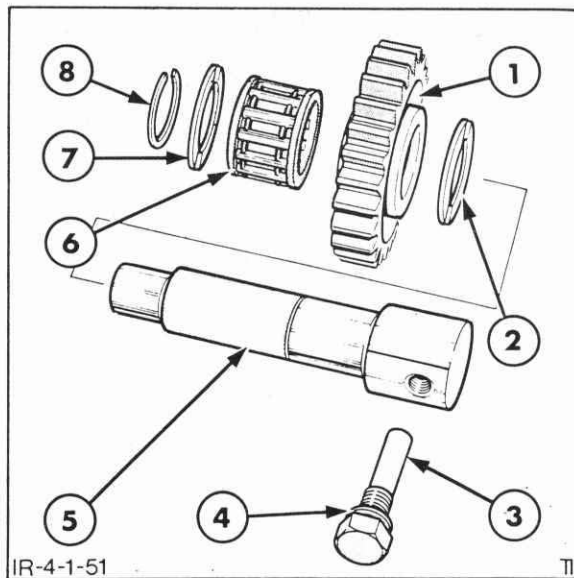

Figure 4-51
5. Remove the snap ring from reverse gear idler shaft, Figure 4-50, and slide the shaft rearwards from the transmission case retrieving the gear, bearing and thrust washers as the shaft is removed, Figure 4-51.